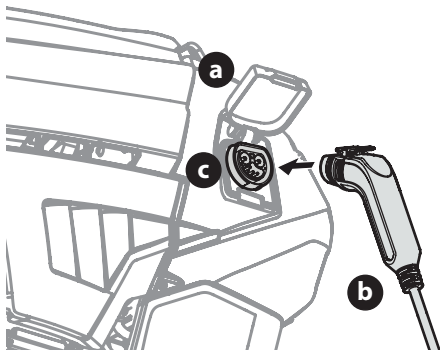

Figure 12
1. Lift the charging port cover (a) (Figure 12).
2. Insert the charging cord (b) into the charging port (c) (Figure 12).